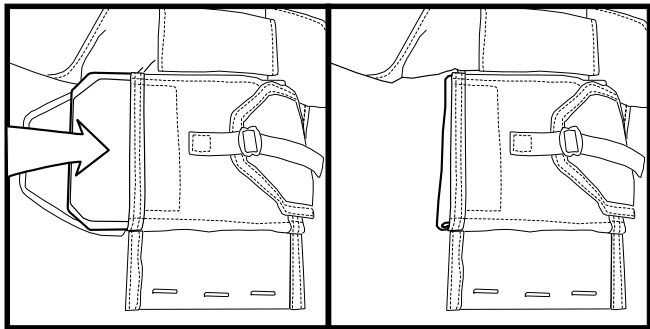

Figure 29. Inserting ESBI Plates.
26. Install ESBI plates (as required) (Figure 29).